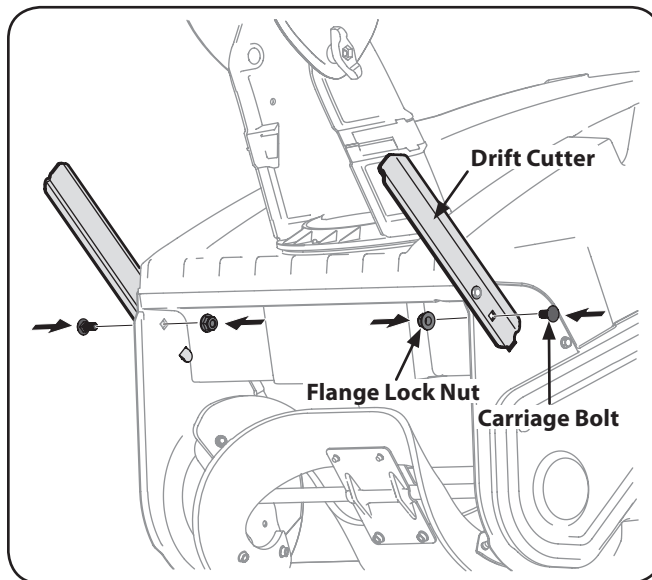

Figure 3-6
- Install the drift cutters and secure with the carriage bolts and flange lock nuts removed in step 1. See Fig. 3-6.